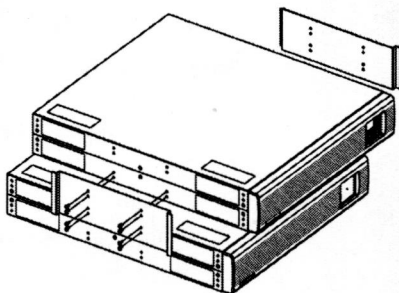

Fig. 18: Attaching Foot Brackets
2. Position one foot bracket to each side of the battery cabinet half way above the cabinet so that the bottom holes in the foot align with the upper holes in the cabinet (fig. 18). Secure each sides with four (4) of the #6-32 screws provided.
3. Position the UPS on top of the External Battery Cabinet so that the holes in the bottom align with the extra holes in the External Battery Cabinet's stabilizing foot bracket. Secure each sides with the four (4) #6-32 screws provided (fig. 18).